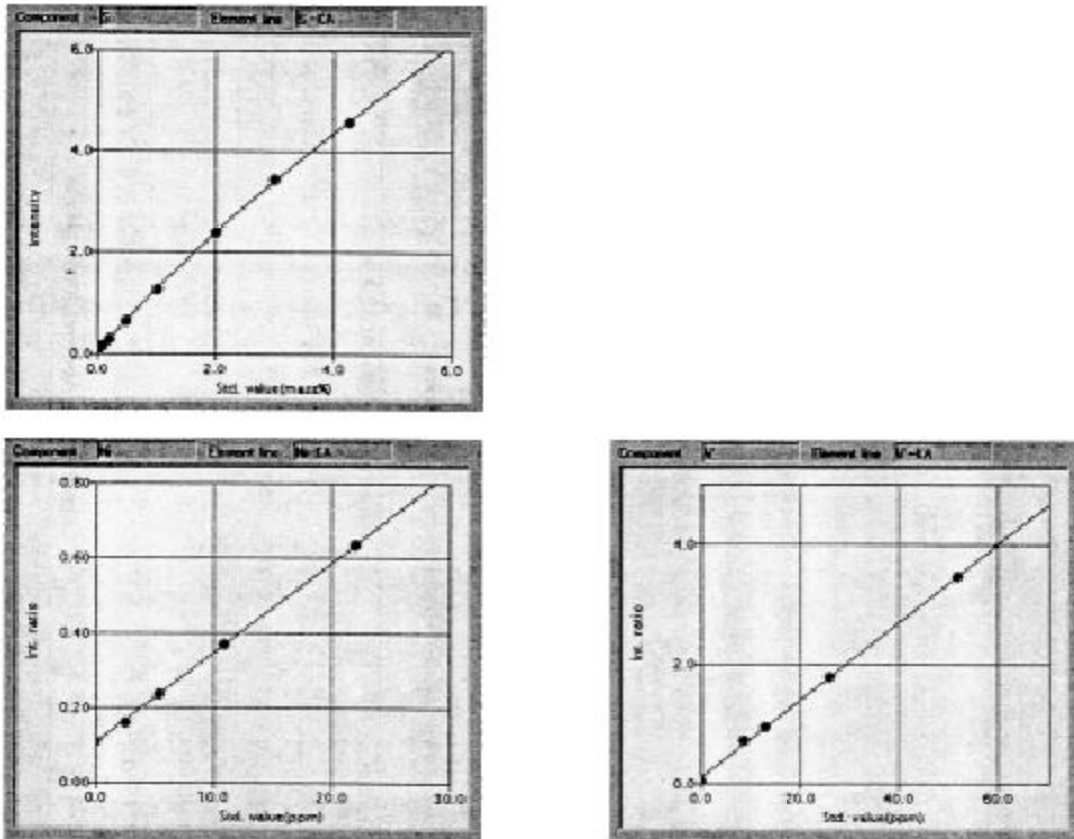

Fig. 3. Calibration curve for heavy oil. (Ni and V were analyzed by the background ratio method.)
- (3) Fig. 3 shows a calibration curve for heavy oil. A good calibration curve can be obtained for a liquid sample. Tube below optics allow easy sample handling with the use of a liquid cell.